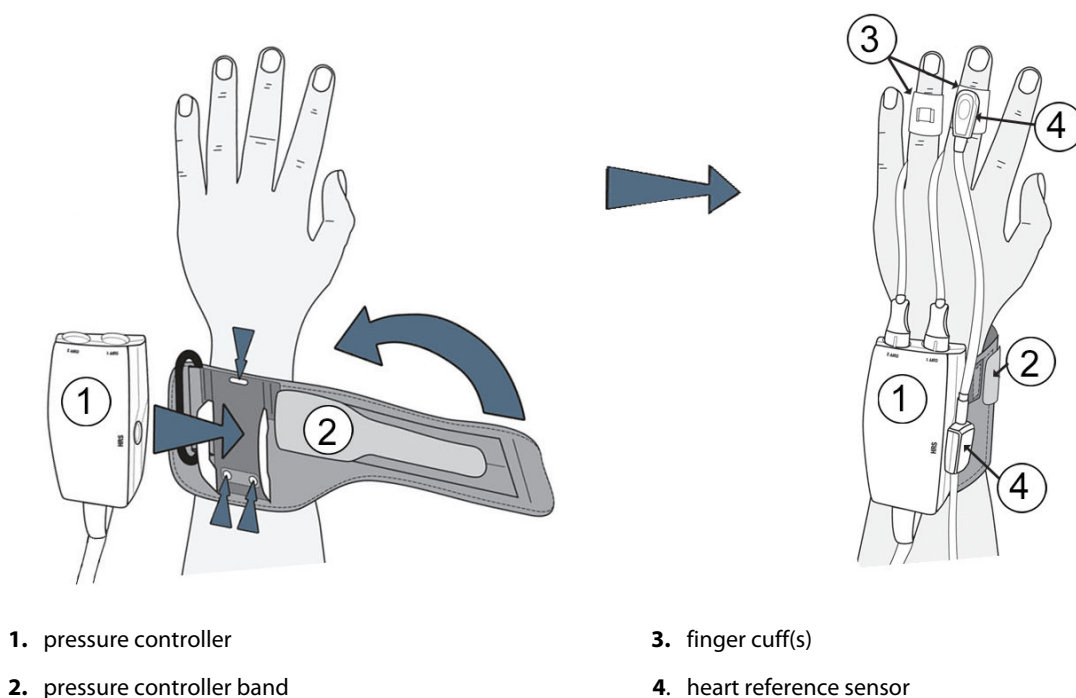

Figure 11-2: Pressure controller application
The pressure controller kit (PC2K or HEMPC2K) consists of a pressure controller (PC2 or HEMPC) and accompanying band (PC2B). A pressure controller cover is available as an accessory. The pressure controller cover secures the heart reference sensor into the pressure controller. See Pressure Controller Cover on page 382. Device performance, including functional characteristics, have been verified in a comprehensive series of testing to support the safety and performance of the device for its intended use when used in accordance with the established Instructions for Use. The pressure controller is worn on the patient's wrist and connects to the HemoSphere ClearSight module, HRS and finger cuff(s). See Figure 11-2 on page 206.
1. Wrap the pressure controller band around the patient's wrist. The non dominant hand is preferred for monitoring in awake patients. (Figure 11-2 on page 206, left)